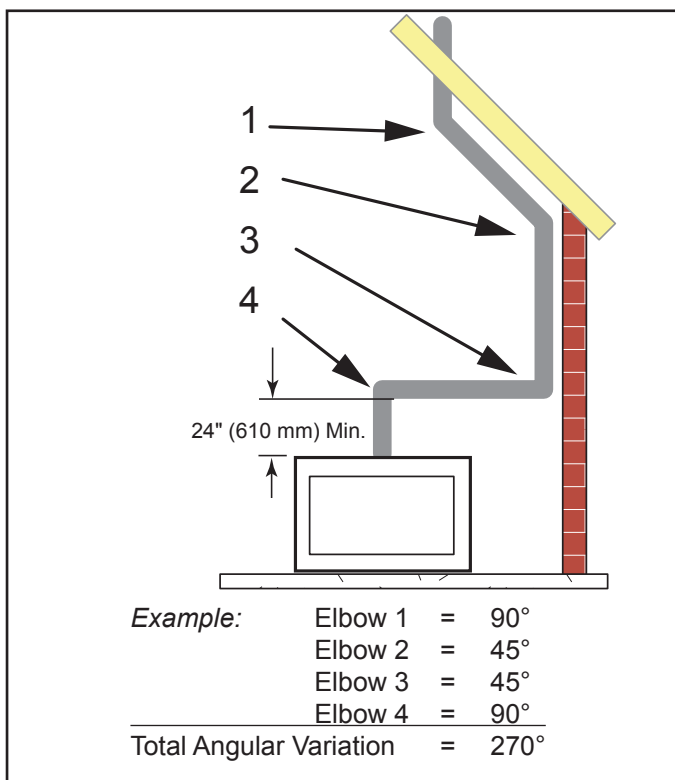

Figure 5.13 Maximum Elbow Usage
- Two sets of 45° elbows offsets may be used within the vertical sections. From 0 to a maximum of 8' (2.5 m) of vent pipe can be used between elbows. See Figure 5.13.
- The maximum angular variation allowed in the system is 270°. See Figure 5.13.